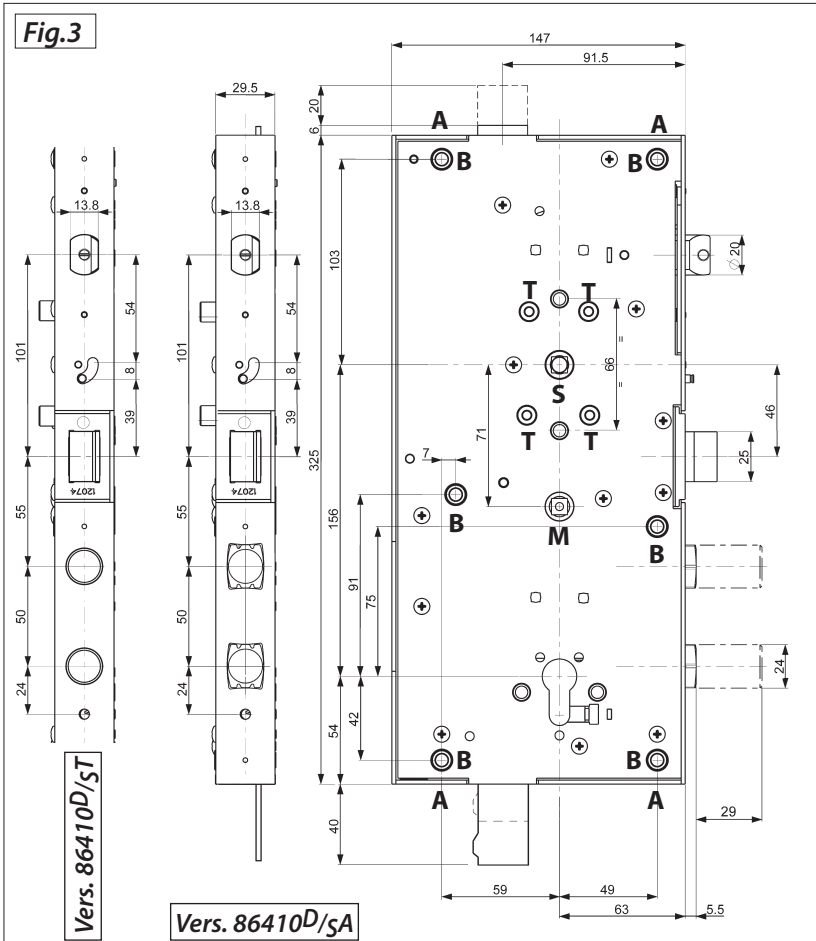

Fig.3
Fasten the lock to the frame (door fastening plane) using the bushings (ref. B Fig. 3,4) present on the same by means of M6 screws (not included) or, where there is lateral attachment, use the M6 housing nuts (ref. A Fig. 3,4). When calculating lock fixing position, remember that the anti-panic device (emergency handle) is located from 900 to 1100 mm above finished floor level with the door closed (if you know that most of the people using the rooms are children, consider lowering the handle).
For the lock to work correctly, after mounting there must be maximum clearance of 4 mm between the deadbolt (in retracted position) and the door jamb (or striker plate) (Fig. 1). Drill the inside door panel (ref. T, S, Fig. 3, 4 according to version) using the drilling template (Fig. 5).
Only if the door/panel is insufficiently rigid, position the spacer bushings (optional, ref. X Fig. 2) on the pins (ref. T Fig. 3, 4) and the square expansion pin (supplied) in its seat (ref. S Fig. 3, 4), then cut these parts to measure, bringing the bushings flush with the panel and the square pin protruding 10 mm from the panel (Fig. 2).
- Using the 4 M5x10 screws (supplied), fix the escutcheon strengthener support to the inside panel by means of the T pins (Fig. 3, 4), insert the plastic washer and the escutcheon cover, then fix the handle with the grub screw.
- The hole on the striker plate for entrance of the latchbolts and deadbolt must have the dimensions shown in the following figure (see Fig. 3, 4 for distances between centers of latchbolts).